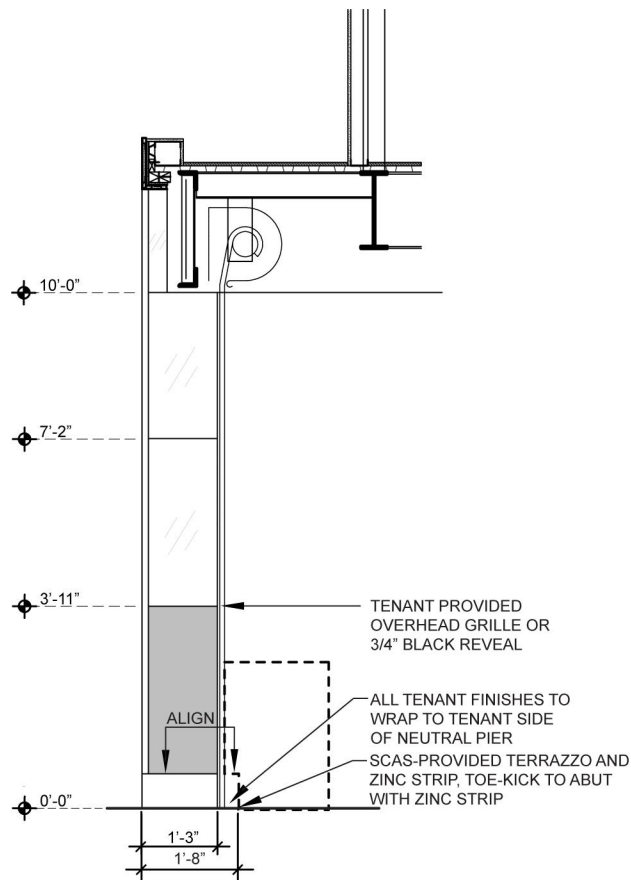

Figure 3.5A Section at Take-Away Counter and Neutral Pier
8. Tenants' take-away counter toe-kick shall abut with the SCDOA-provided zinc strip. All finishes on the Tenant's side of the terminal's neutral pier finishes shall coordinate with the Tenant's counter finishes and be separated by a $\frac{3}{4}$ " black aluminum reveal. *Reference Figure 3.5A.*